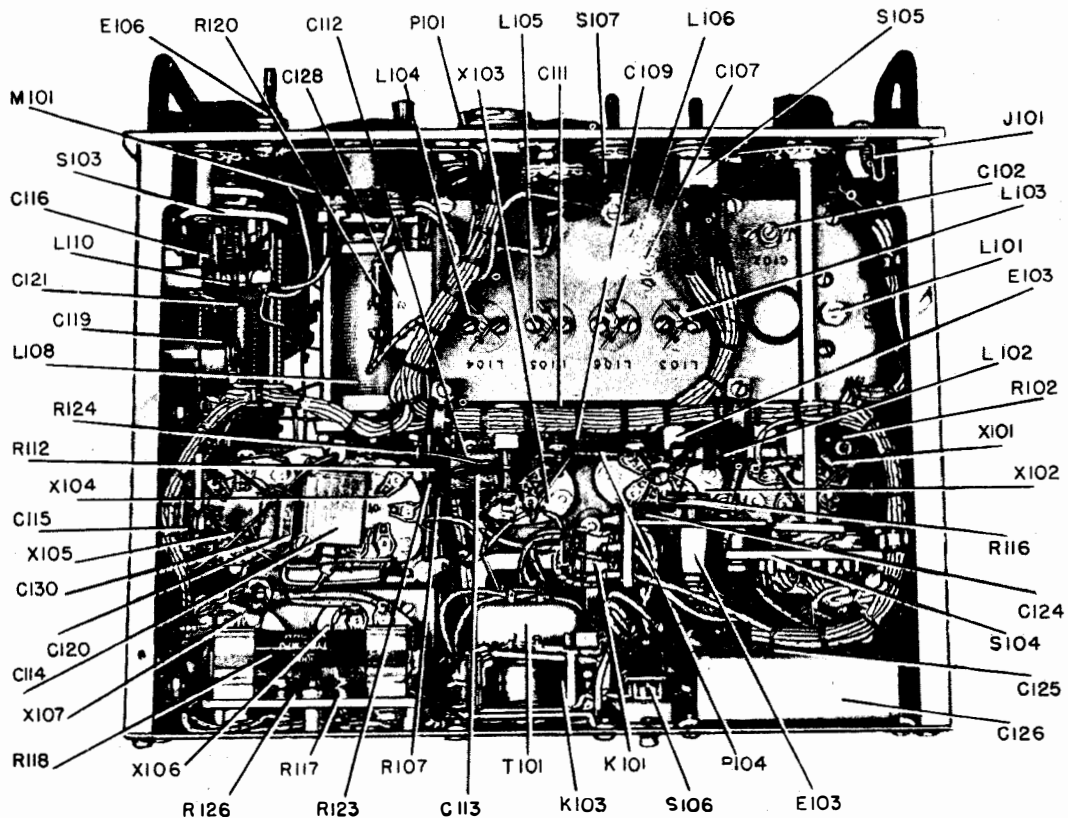

Figure 7-24 Open Bottom View of Transmitter
g. Take out the screw that holds the grounding lug connecting the final-amplifier grid resistors R107 and R112 to the chassis, detach this lug from the chassis-grounding post, and insert the direct-current milliammeter between the junction of the resistors and the chassis. (see figure 7-24)
j. Rotate the TUNING control C101 until the dial indicates 1.5 Mc and adjust the inductance trimmer within inductor L101, until the frequency of the oscillator output is exactly 1.5 Mc. (Refer to figure 7-24 for the location of the capacitance and inductance trimmers.)